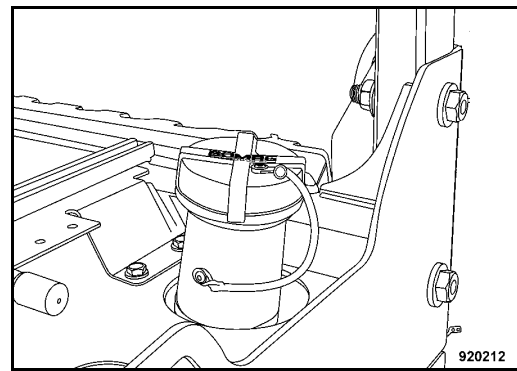

Fig. 178
- Remove the water tank cover (Fig. 178).